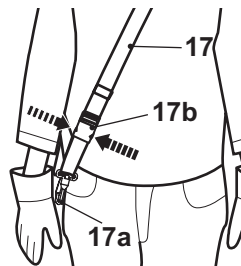

Fig. 9
- In case of emergency hold the soft grip (8a) of the front pole (8) with the left hand, and use the right hand to press two clips of the quick release (17b). The product together with the securing clip (17a) will be released automatically from the body because of the weight of the product (Fig. 9).